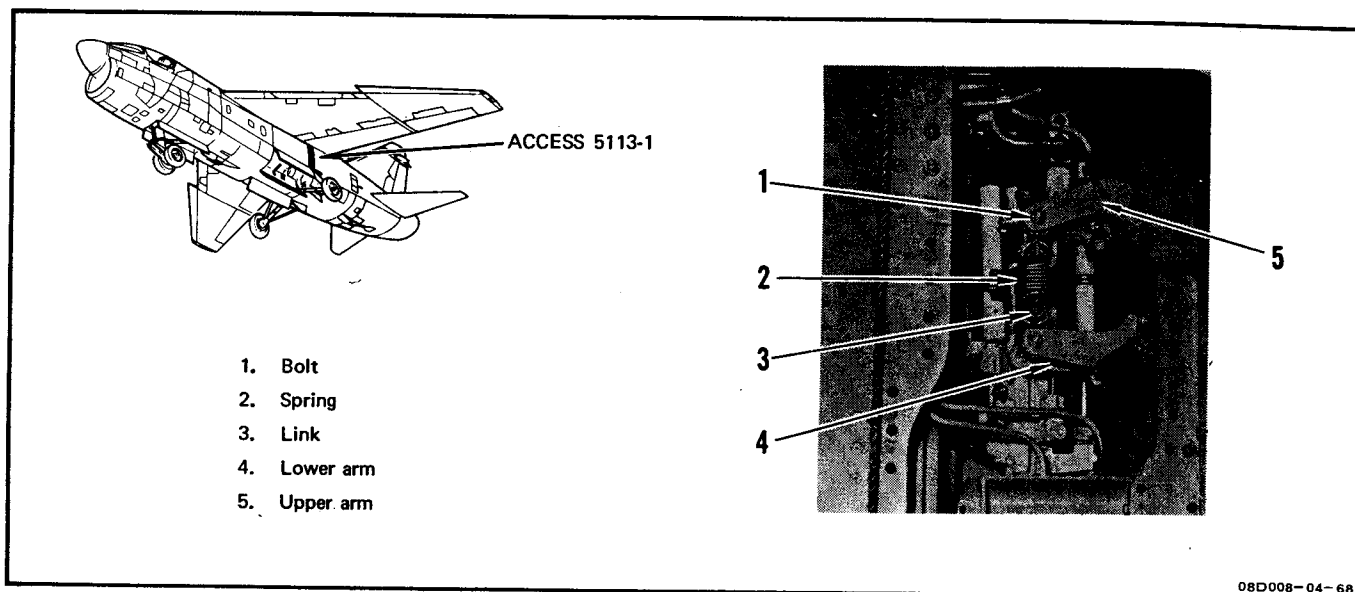

Figure 2-8. Roll Feel Spring and Arm Removal and Installation
**2-60. REMOVAL. (See figure 2-8.)**
- b. Remove upper spring mounting bolt (1) and remove spring (2).
- c. Remove cotter pin, nut, washer, and bolt securing feel spring input link (3) at lower end.
- d. Remove cotter pin, nut, washers, and bolt securing lower arm to support and remove arm (4).
- e. Remove cotter pin, nut, washers, and bolt securing upper arm and remove arm (5).
**2-61. INSTALLATION. (See figure 2-8.)**
Install upper arm (5) and lower arm (4) as shown in figure 2-8 with adjustment lugs inboard.
- a. Install upper arm (5) and secure with bolt, washers, nut, and new cotter pin.
b. Install spring (2) and secure with upper spring-mounted bolt (1).
c. Install lower arm (4) with bolt, washers, nut, and new cotter pin.
d. Install feel spring input link (3) with bolt, washers, nut, and new cotter pin.